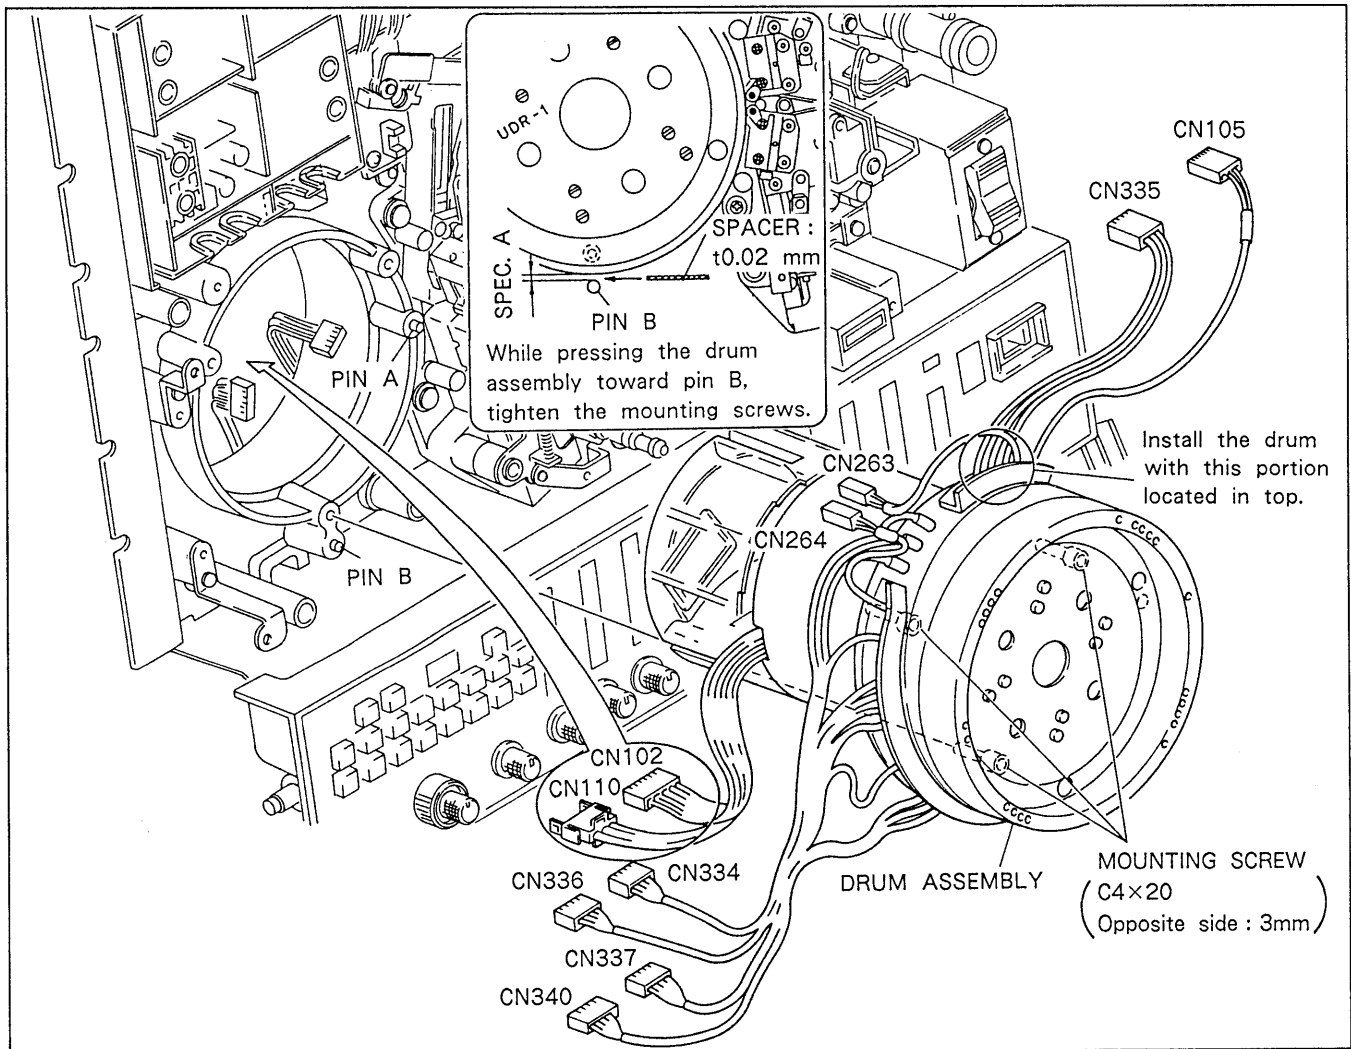

Fig. 6-2-6. Drum Assembly Installation
11. 1) Route the harness for CN102 and CN110 shown in Fig. 6-2-6 through the base plate hole to the rear side of the VTR.
- 2) Hold the new drum assembly tight with posture of the drum where the CN335 neck is facing toward up as shown in Fig. 6-2-6.